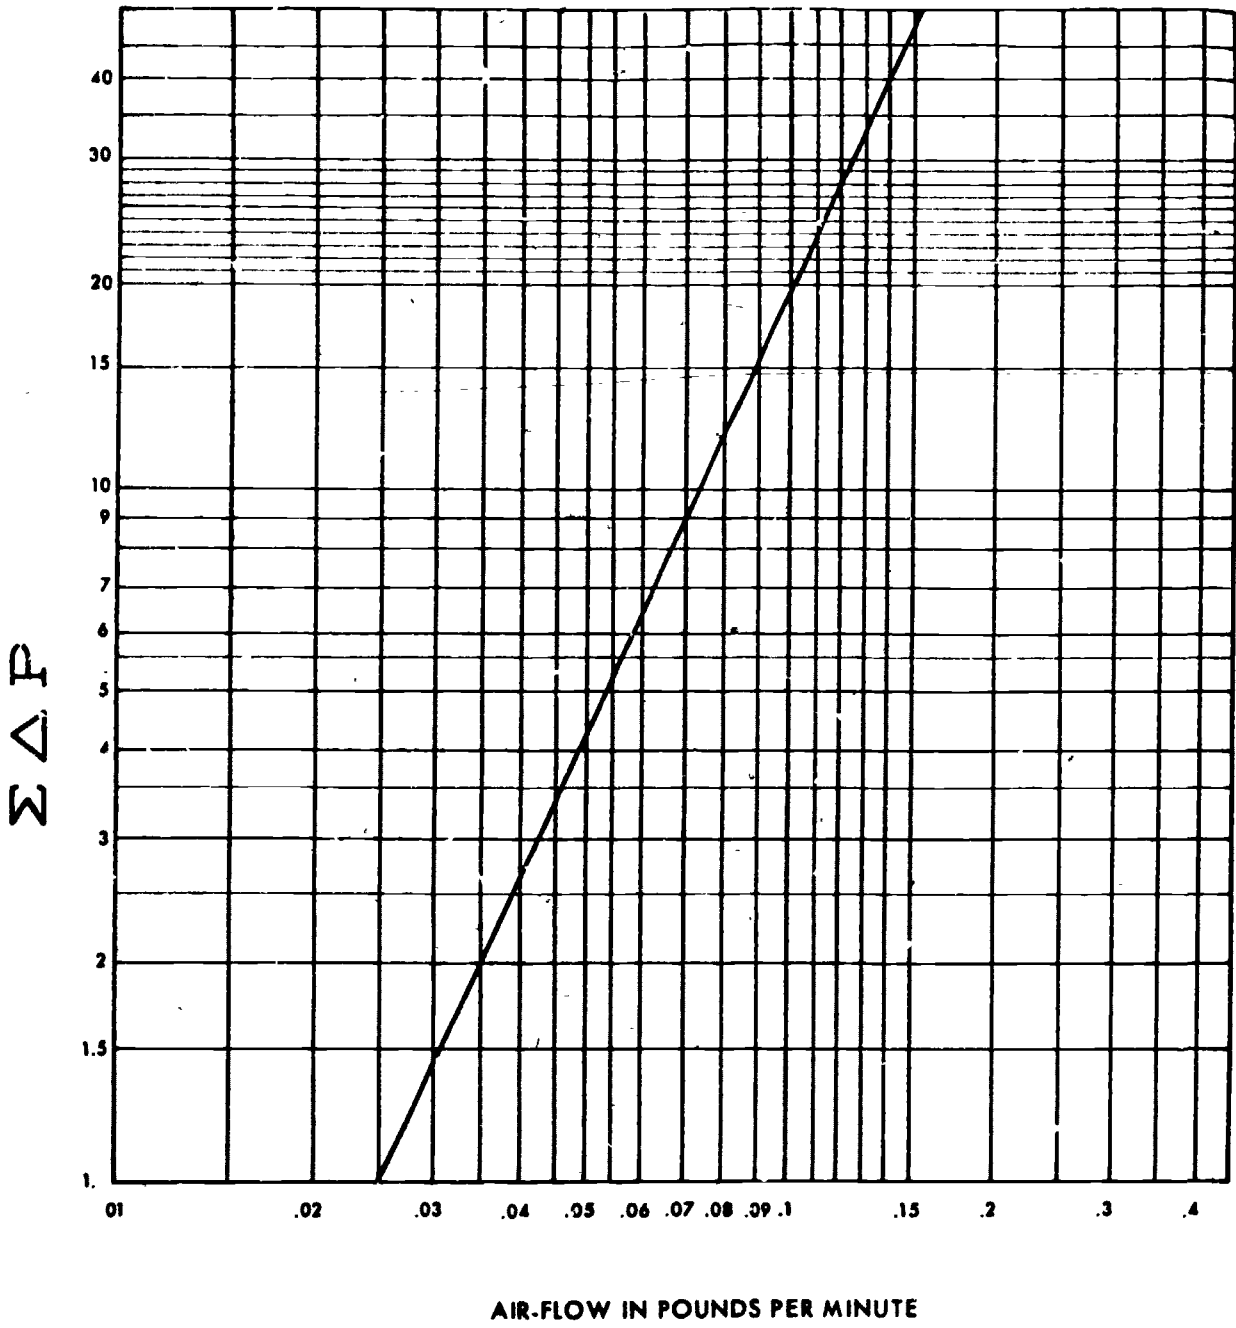

Figure 5.
7. After you have determined $\Sigma \Delta P$, use the conversion chart (figure 5) to convert $\Sigma \Delta P$ to airflow in pounds per minute (PPM).